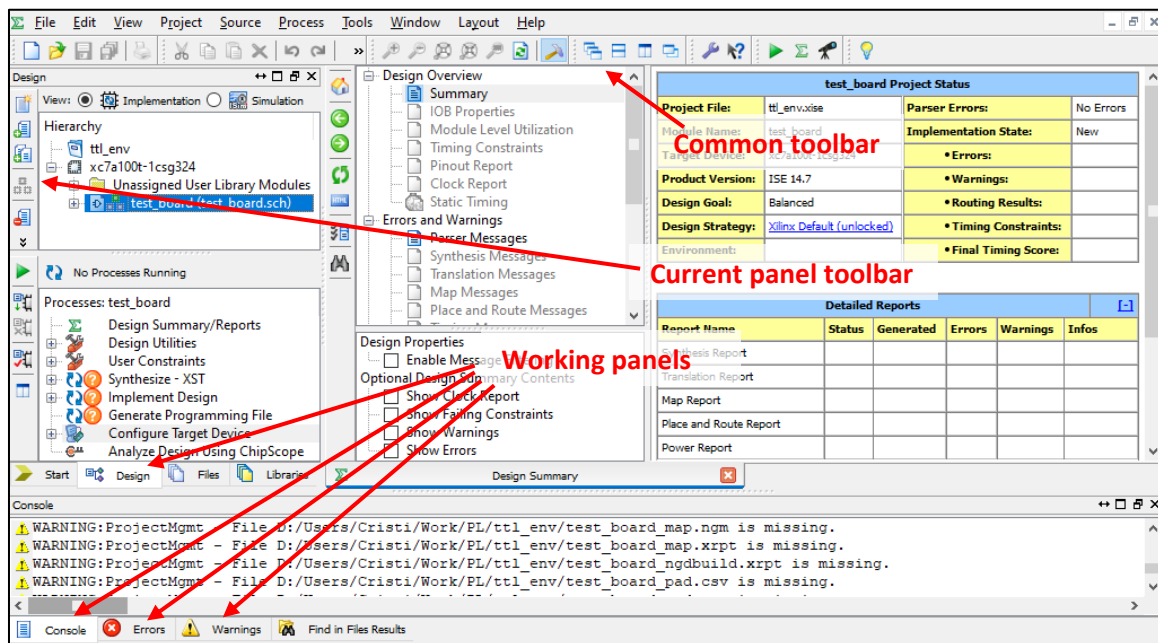

Figure 1. 1 Project Navigator interface
- **Design panel** (Figure 1. 1) – highlights the project structure organized as a set of interconnected circuits. Initially, the project contains the test circuit called **test\_board**. With double-click on the name of the circuit the schematic editor will appear and the **Symbols** panel will open.